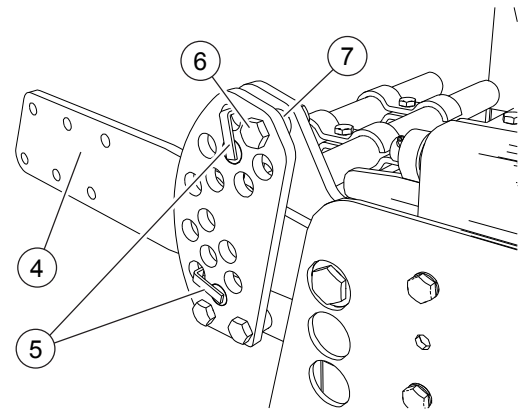

FIG. 10
- Loosen the bolts (6, "Fig. 10"). Remove the spacer (7). Remove the split pin and the upper pin (5). Lower the arm (4) until it rests onto the lower pin (5). Insert the upper pin (5) into the first free hole on the arm. Tighten pins with the split pin.